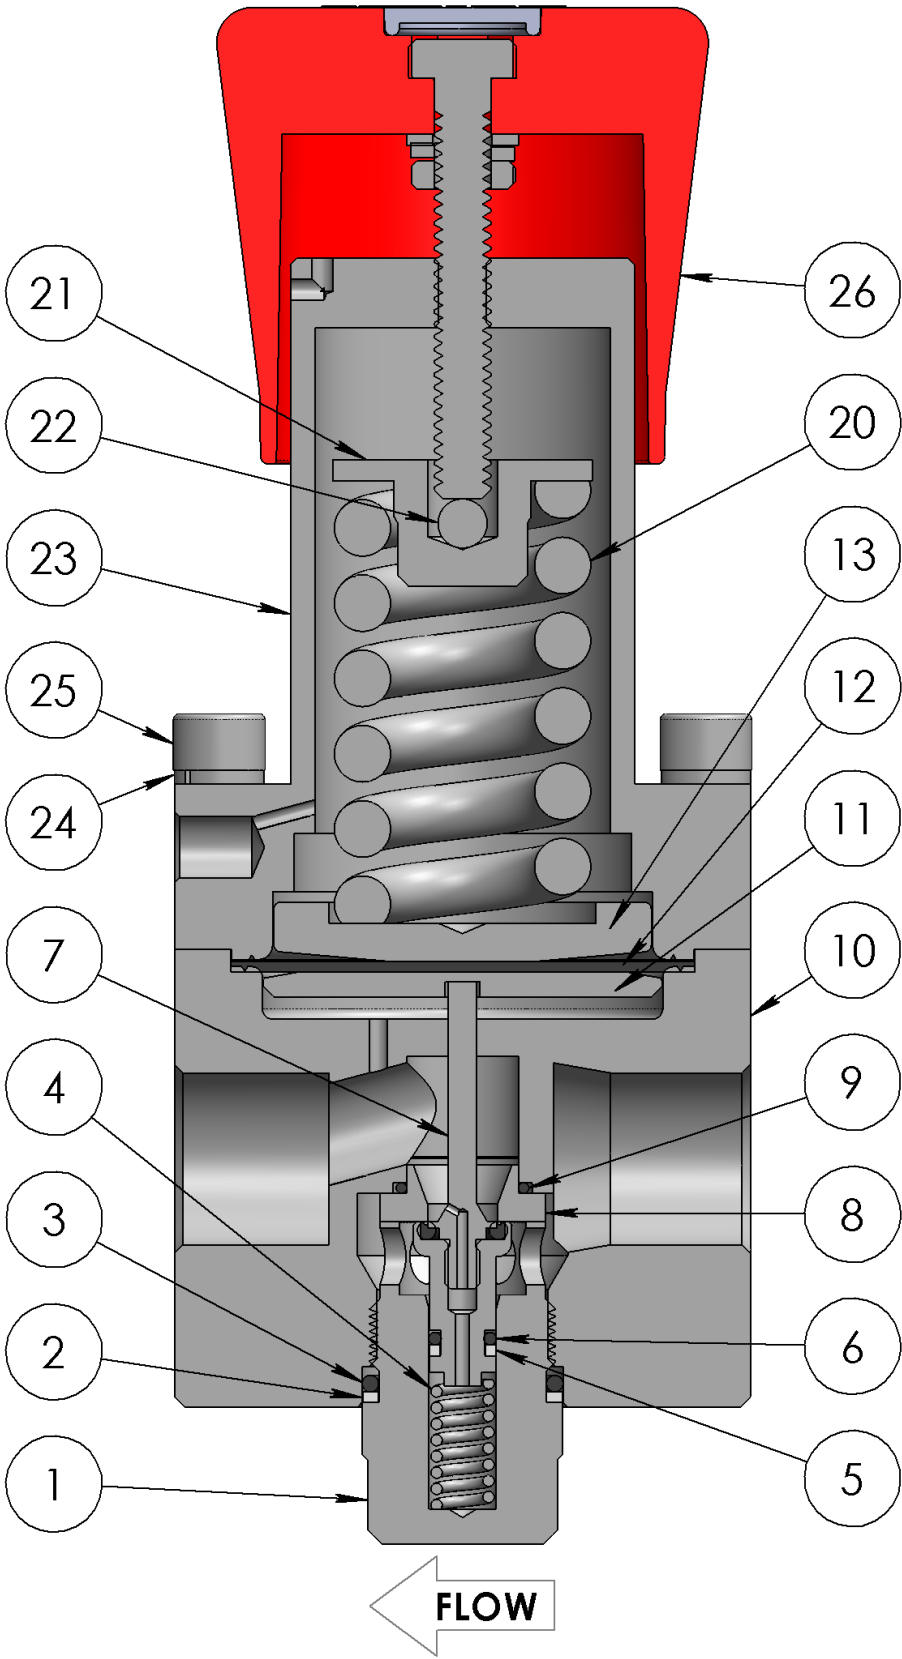

Fig 2
1. Secure the body (10) in a vise.
2. Fit the body plug O-ring (3) and, if present, body plug backup ring (2) onto the body plug (1). Ensure their orientation is correct per Fig 2.
3. Fit the seat O-ring (9) onto the seat (8).
4. Insert the seat (8) into the body (10). The poppet (7) can be used as an insertion tool if required. Take care not to damage the seat (8) and poppet (7) if doing this.
5. Fit the O-ring (6) and backup ring (5) onto the poppet (7). Ensure their orientation is correct per Fig 2.
6. Lightly lubricate the poppet O-ring (6) then stack the poppet (7) and poppet spring (4) through the seat (8).
7. Lightly lubricate the body plug (1) threads and assemble over the spring (4) into the body (10). Torque to 37 lbf-ft (50 N·m) while ensuring the body plug O-ring (3) is not pinched.
8. Place the diaphragm plate (11) onto the poppet (7).
9. Place the diaphragm (12) onto the diaphragm plate (11) and locate it in the body (10).
10. Place the bottom spring guide (13) centrally onto the diaphragm (12).
11. Fit the ball (22) into the spring guide (21) and retain in place.
12. Place the set spring (20) and spring guide (21) onto the bottom spring guide (13).
13. Lightly lubricate the cap screws (25). Fit the spring housing (23) over the spring (20) and secure with the cap screws (25) and washers (24). and torque to 20 lbf-ft (27 N·m).
14. Lightly lubricate the knob assembly stem (26) then insert it into the spring housing (23).